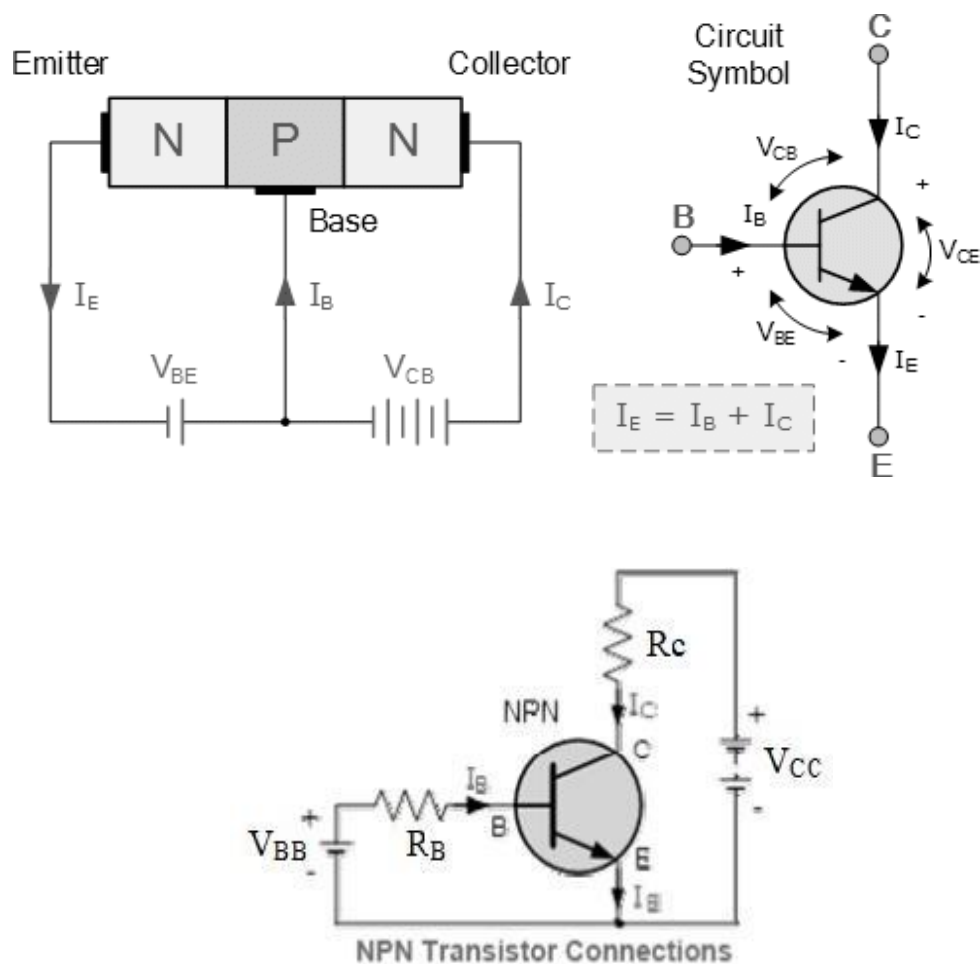

Fig.4: Currents and voltages in a npn transistor
- For npn transistor, base is biased positive with respect to emitter as shown in Fig.4.